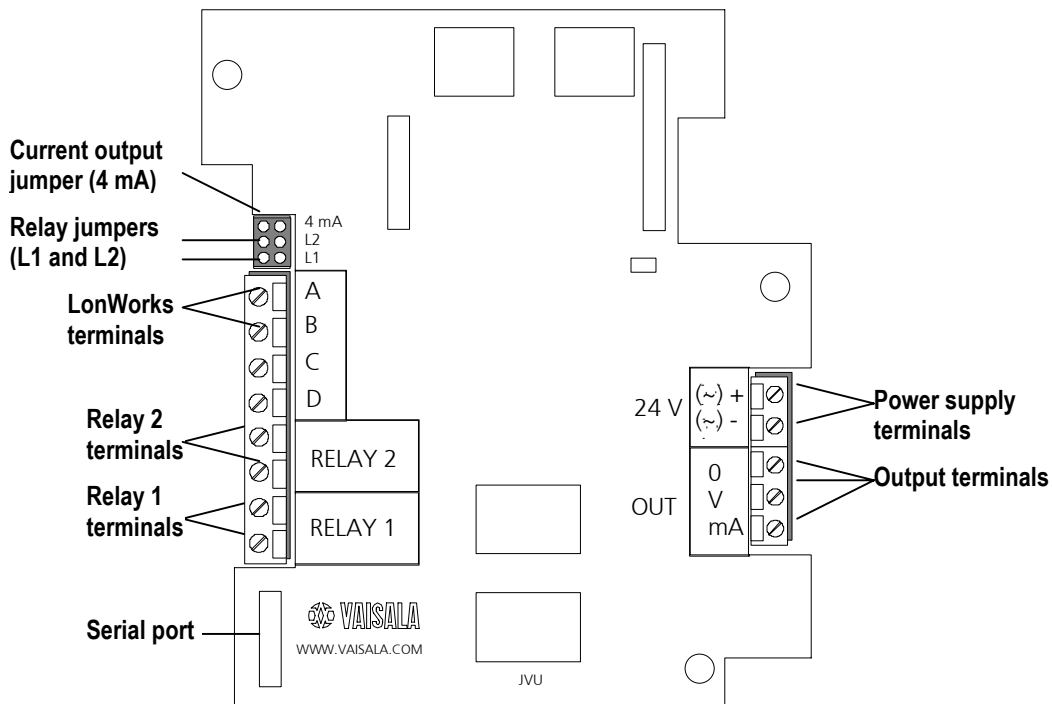

Figure 6. Electrical connections and jumpers.
1. Connect the nominal 24 V supply terminals (+) and (-) on the motherboard (right-hand side, see Figure 6).
2. Connect the analogue output (see Figure 6) as follows:
If the current output is chosen, select the output range by using the current output jumper 4mA (see Figure 6). If the range of 4...20mA is chosen, connect the jumper (default). If the range of 0...20 mA is chosen, disconnect the jumper.
The relay output wiring is done at the left-hand side terminals on the motherboard (see Figure 6). When the relay trigger point is exceeded, the relay switches ON. This function can be inverted by disconnecting the corresponding relay jumper (L1 or L2).